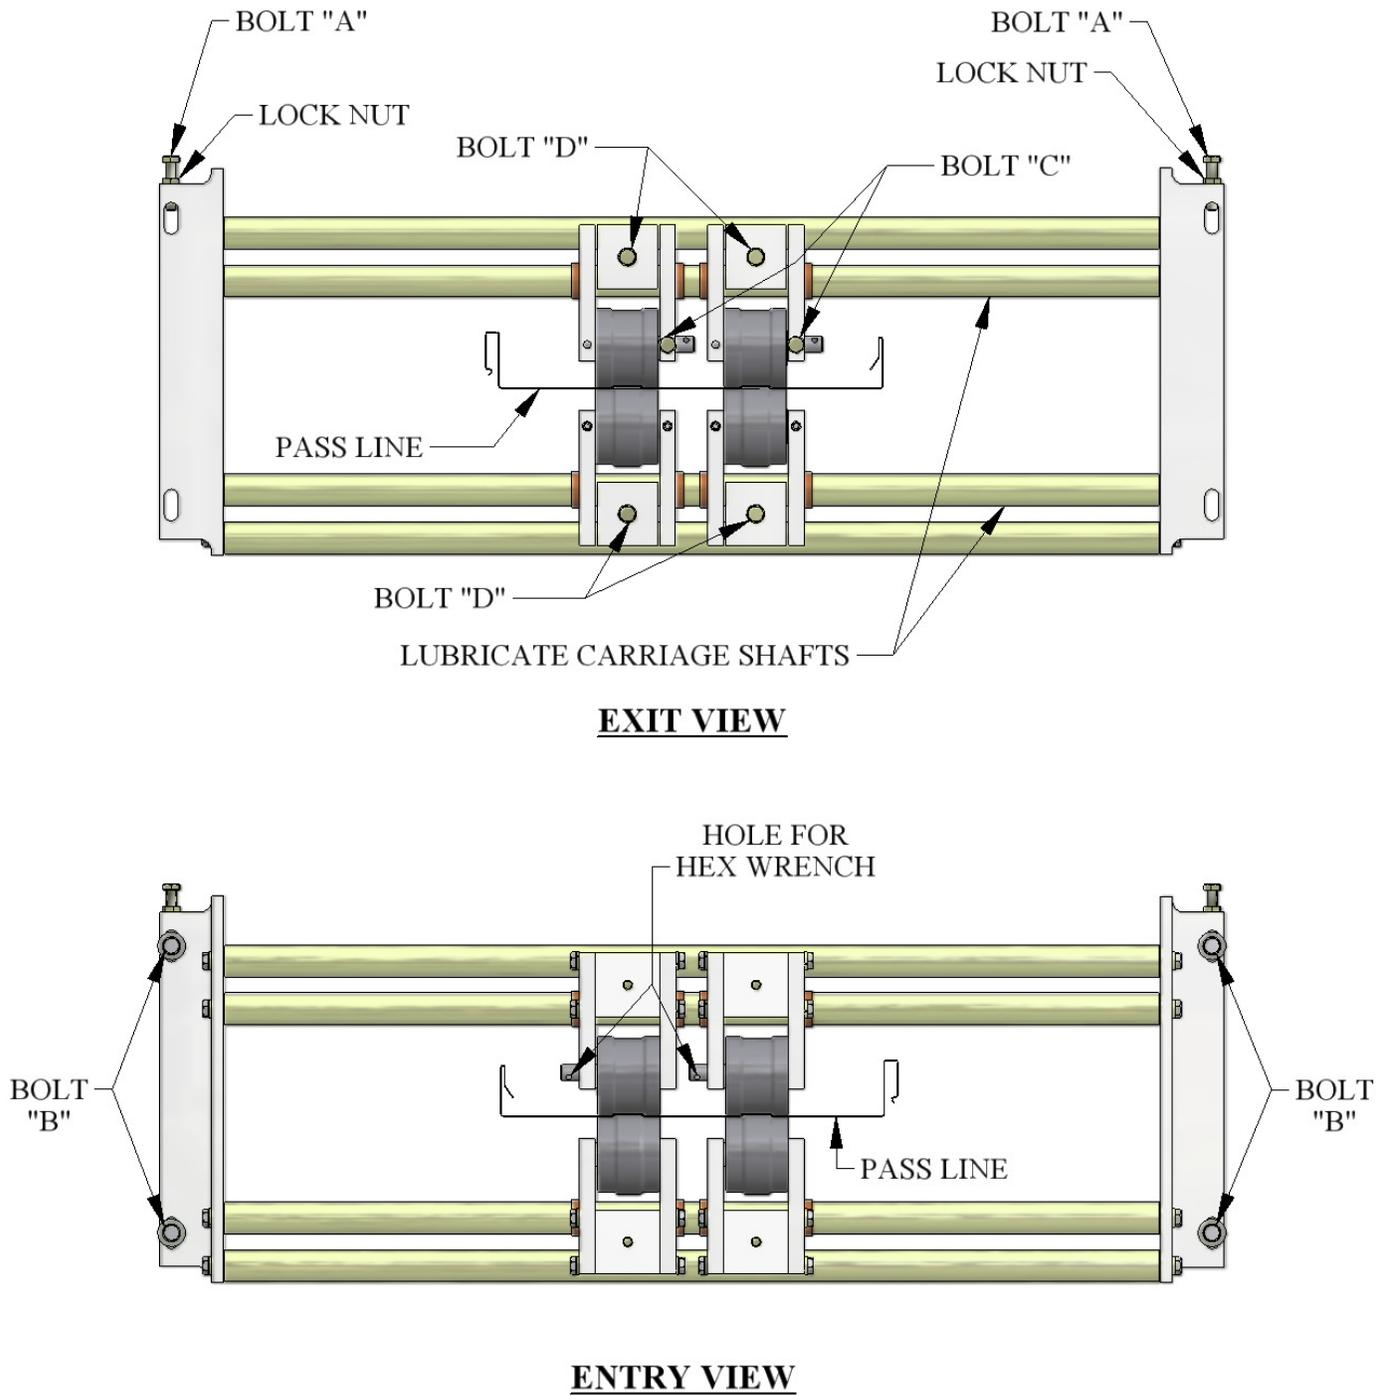

Figure 21: Bead Roller Assembly
1. The Bead / Striation Roller assembly (Figure 21) is located behind the shear and is accessed by removing top cover #3. These rollers can be engaged or disengaged as needed and can also be moved left or right to accommodate different panel widths.